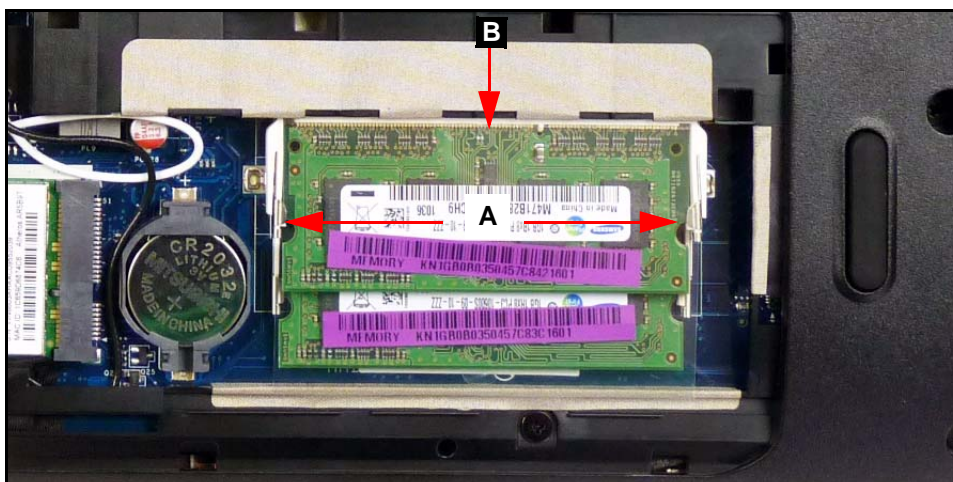

Figure 3-11. DIMM Modules
2. Push DIMM clips (A) outwards. (Figure 3-11)
3. Disconnect DIMM out of mainboard connector (B). (Figure 3-11)
1. Connect DIMM into mainboard connector (B). (Figure 3-11)
2. Push down on DIMM until module clips (A) lock in position. (Figure 3-11)